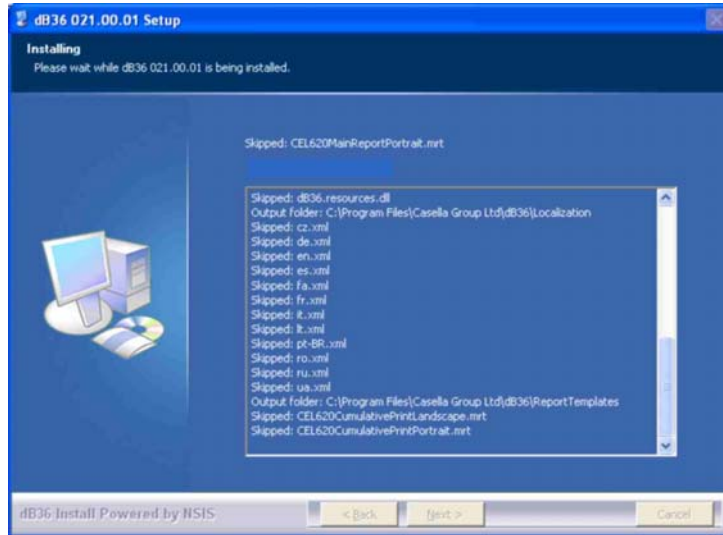

Figure 6 Installation
13. During Installation the buttons on the screen are disabled (Refer to Figure 6). Installation time is dependent on PC speed.